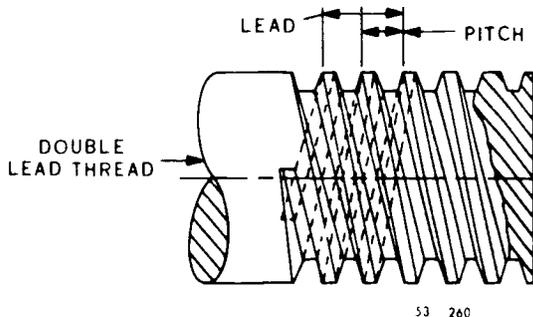

Figure 125. Double-lead thread.
k. Lead. Lead is the lateral distance a thread moves per revolution. On a single-lead thread, the lead and the pitch are identical; on a double-lead thread, the lead is twice the pitch; on a triple-lead thread, the lead is three times the pitch; etc. Figure 125 shows the difference between the lead and the pitch of a double-lead thread.